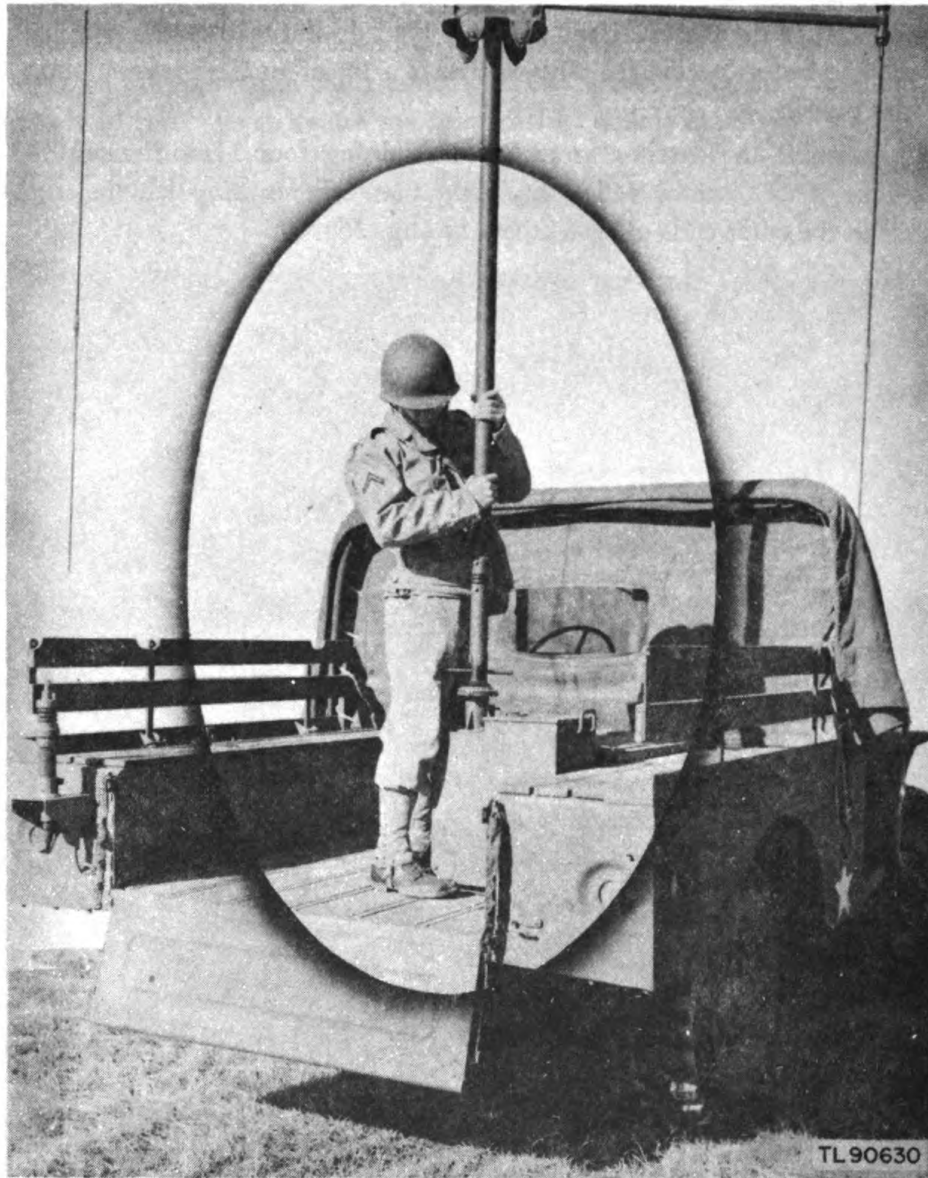

Figure 27. Placing assembled antenna array on antenna mount.
d. Lift the antenna array bodily and place it over the stub projecting from the top of the antenna mount (fig. 27). Slip the socket on the bottom of the mast down over the stub, and turn the mast until it aligns with the keys on the side of the stub. Push the mast down to seat it firmly on the stub.